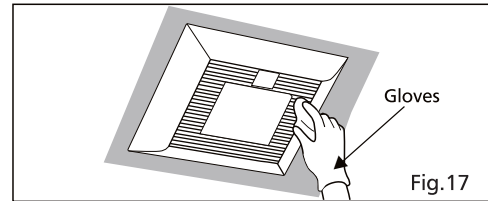

Fig.17
1. Clean grille. (Don't put into hot water. Use non-abrasive kitchen detergent, wipe dry with clean cloth) (Fig.17)